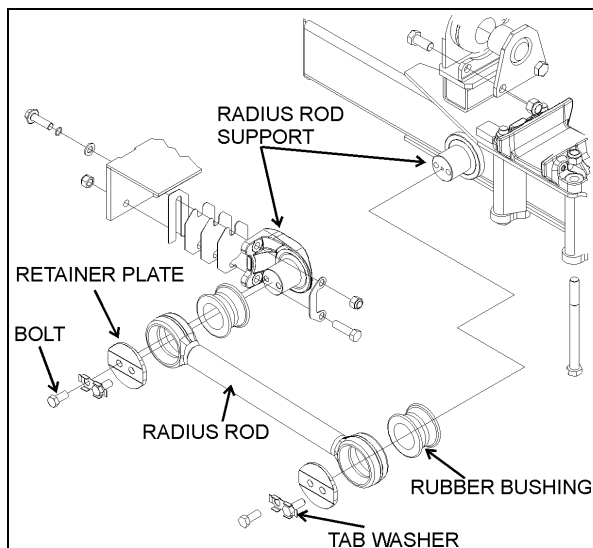

FIGURE 46: TYPICAL RADIUS ROD SETUP
1. Flatten the tab washer which secures the two retaining nuts (or bolts), and then unscrew the nuts (or bolts) at each extremity of the radius rod (Fig. 46).